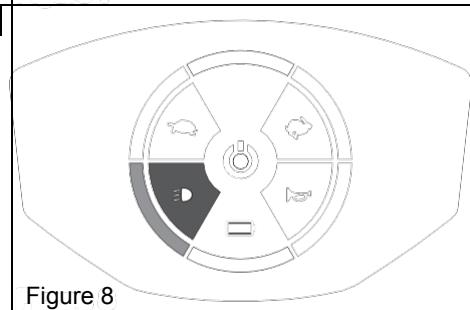

Figure 8
- Press button [⚡] once to switch on the head-light and tail – light. The [⚡] will be lighted on the panel. Light will be on on the panel. (Figure 8)
- Switch off by pressing the button again. The [⚡] light will be off on the panel. (Figure 8)